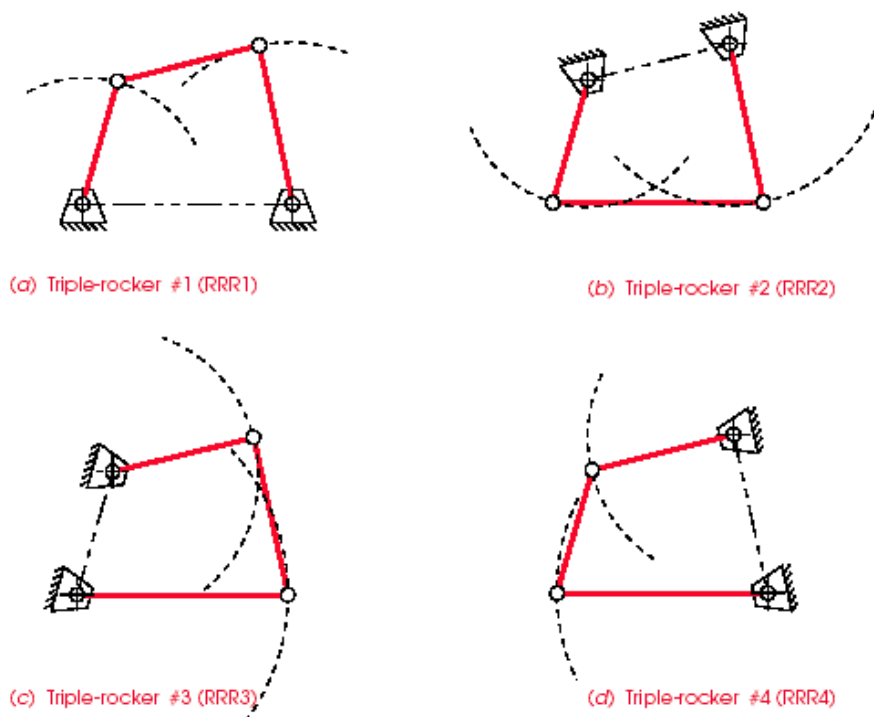

Figure 2: All inversions of the non-Grashof fourbar linkage
2. Non-Grashof four-bar (See Figure 2) (**do only one of the four inversions**)